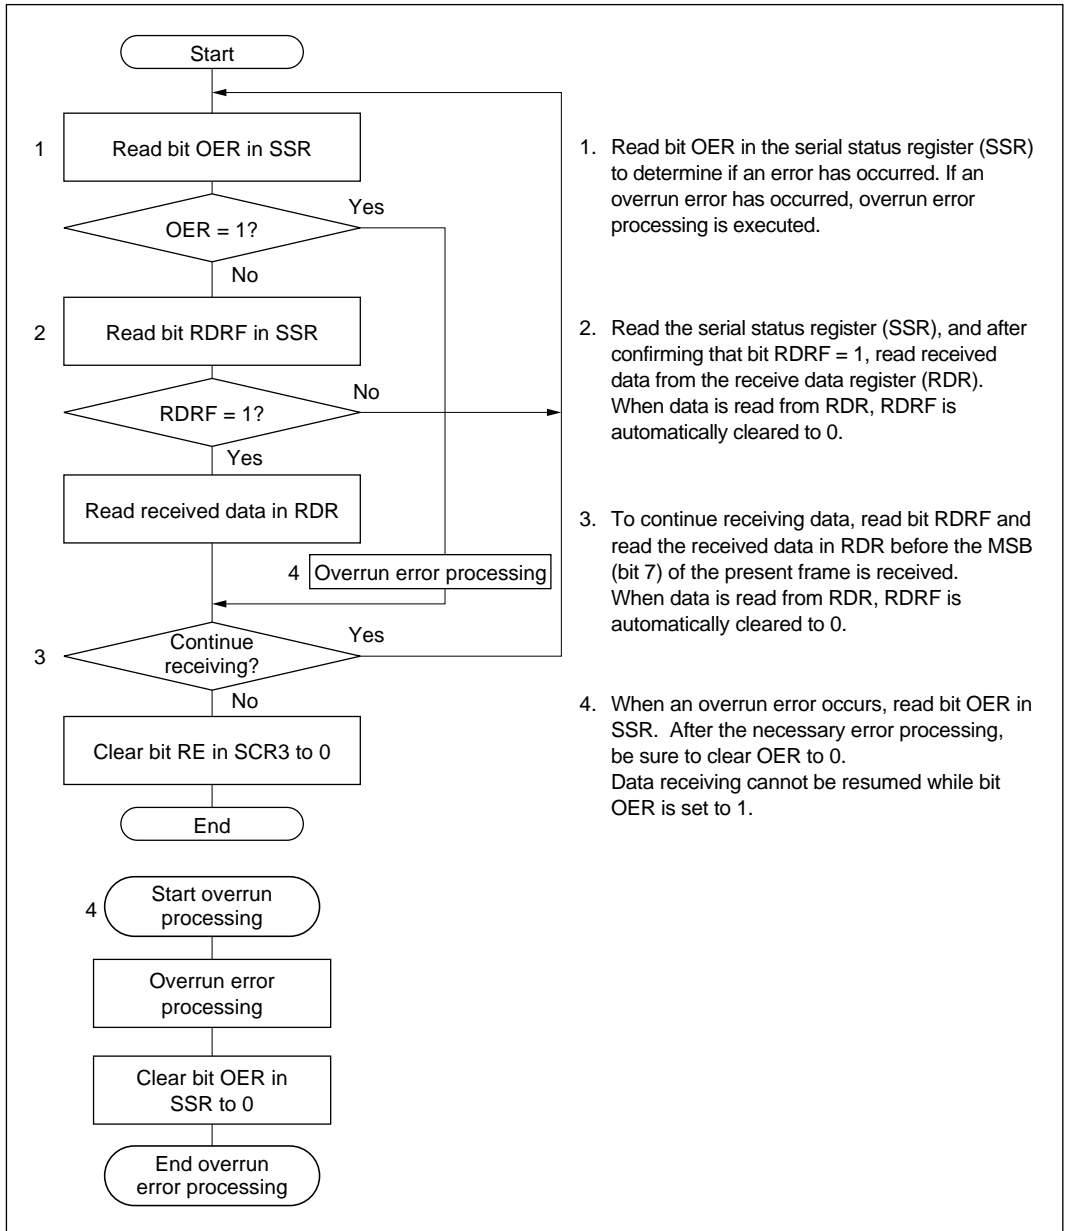

Figure 10-3-13 Typical Data Receiving Flow Chart in Synchronous Mode
Figure 10-3-13 shows a typical flow chart for receiving data. After SCI3 initialization, follow the procedure below.
4. When an overrun error occurs, read bit OER in SSR. After the necessary error processing, be sure to clear OER to 0. Data transmission and reception cannot take place while bit OER is set to 1. See figure 10-3-13 for overrun error processing.